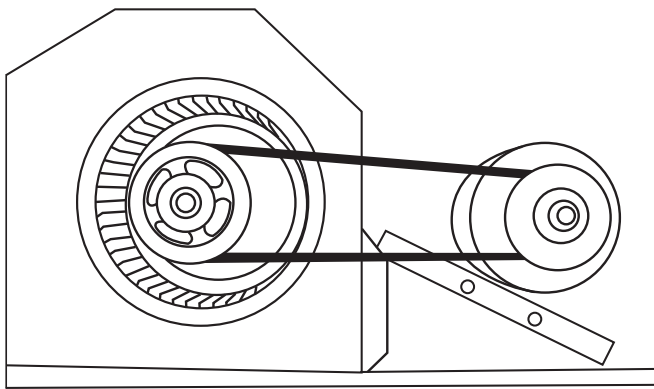

Fig. 5 — Belt Drive Motor Mounting
The supply fan system consists of a forward-curved centrifugal blower wheel on a solid shaft with two concentric type bearings, one on each side of the blower housing. A fixed-pitch driven pulley is attached to the fan shaft and an adjustable-pitch driver pulley is on the motor. The pulleys are connected using a “V” type belt. (See Fig. 5.)
2. Loosen belt by loosening fan motor mounting nuts. (See Fig. 5.)